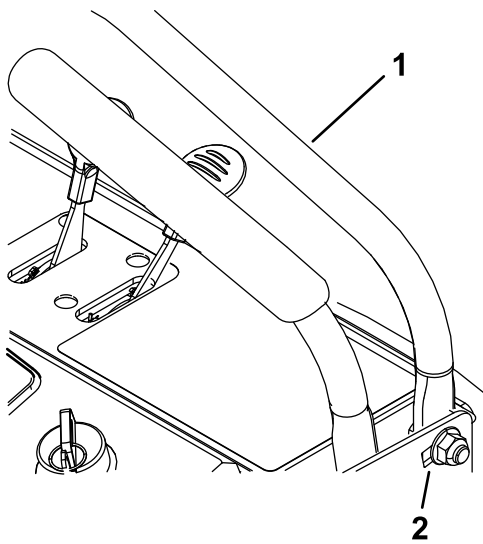

Figure 27
2. Loosen the nuts on each side of the control panel (Figure 27).